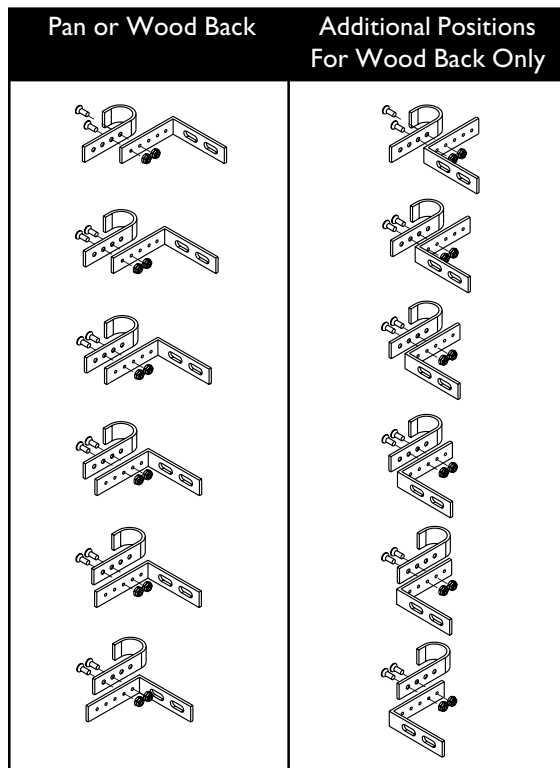

FIGURE 5 - ADJUSTING THE CONTOUR U SEATING SYSTEM BACK DEPTH
ADJUSTING THE CONTOUR U BACK DEPTH (FIGURE 5)
NOTE: There are twelve (12) depth adjustments available on the ContourU with a wood back. Six (6) mounting positions with the L brackets facing the front of the wheel chair and six (6) mounting positions with the L brackets facing the rear of the wheel chair as shown in FIGURE 5.
2. Remove the two (2) mounting screws and locknuts that secure the J bracket to the L bracket.
3. Align two (2) mounting holes of the J bracket with two (2) mounting holes of the L bracket to acquire the desired depth as shown in DETAIL "A" of FIGURE 5 .
4. Reinstall the two (2) mounting screws and locknuts that secure the J bracket to the L bracket. Securely tighten.
5. Repeat STEPS 3-4 to adjust the remaining three (3) J and L brackets.